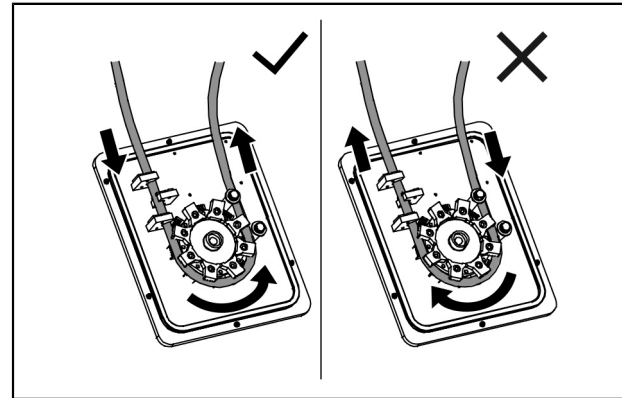

Fig. 4: Correct rotational direction of skimmer unit
- Check for correct rotational direction of the skimmer unit, anticlockwise when viewed from above (see "Fig. 4: Correct rotational direction of skimmer unit", page 63).